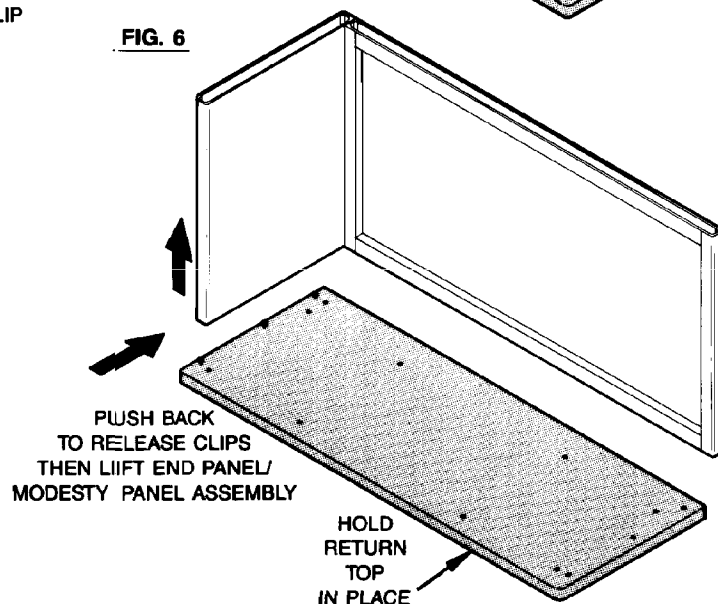

FIG. 6
- Disengage clips from screws in the top by firmly pushing the end panel/modesty panel assembly toward the back of the top (Fig. 6).